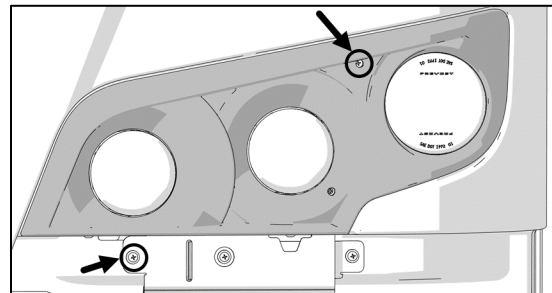

FIGURE 77: HEADLAMPS ASSEMBLY FIXING SCREWS
2. Unfasten the two screws (Figure 77) fixing the headlamps assembly then tilt the headlamps assembly down.
1. Unfasten the two screws (Figure 77) fixing the headlamps assembly and then tilt the headlamps assembly down.
1. Remove the two screws (Figure 77) fixing the headlamps assembly and then tilt the headlamps assembly down.